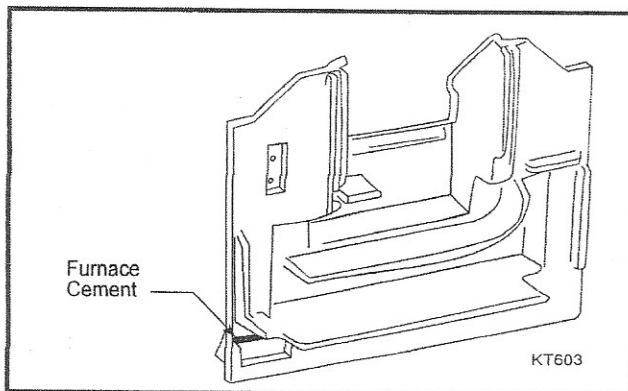

Fig. 1 Apply cement to the secondary air tube channel in stove back.
6. Cement the secondary air tube channel in the stove back. (Fig. 1)